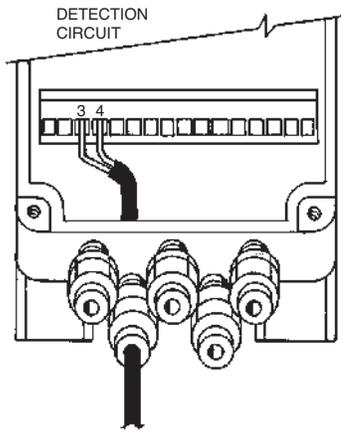

FIGURE 27
2. Route the detection wire through a strain relief at the bottom of the MP-N control module, to the terminal strip in the control module. Make certain wire is not exposed to damage. See Figure 27.
3. On the terminal block at the control module, install the wires to terminals No. 3 and 4. See Figure 27. **Note:** It is not necessary to be concerned about polarity when installing these wires.